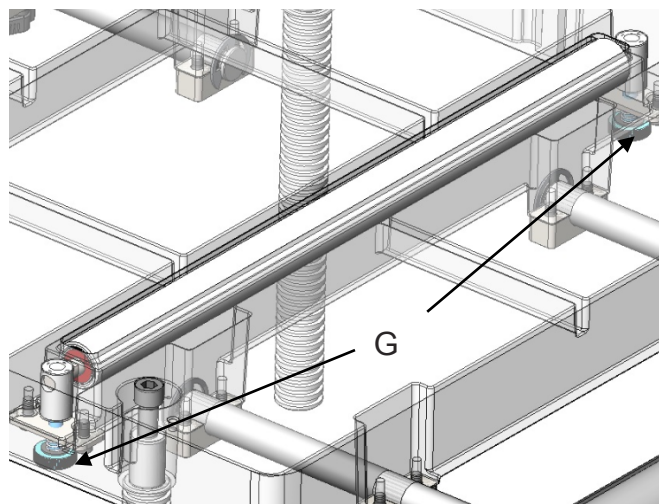

Figure 4: Table Roller adjustment
3. Turn the knobs (Fig. 4, G) to move the table roller up or down to the desired position.